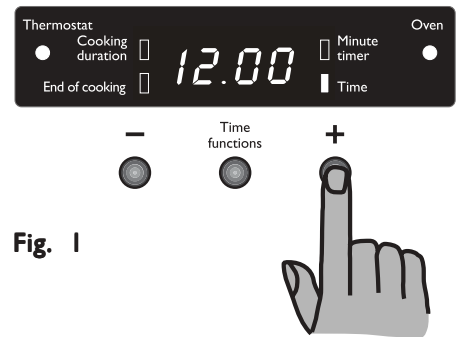

Fig. 1
1. Press button "+" or "−" (Fig. 1).